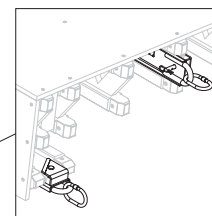
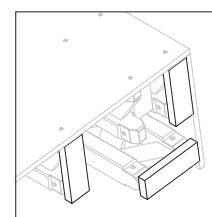

Fig. A2.08a
Fig. A2.08b
8. If necessary, mount Crane Splices 24 at the top (Fig. A2.08a) and rubbing boards at the bottom. (Fig. A2.08b)